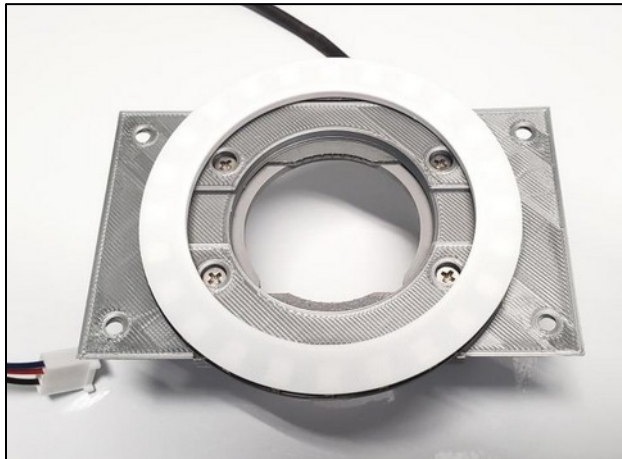
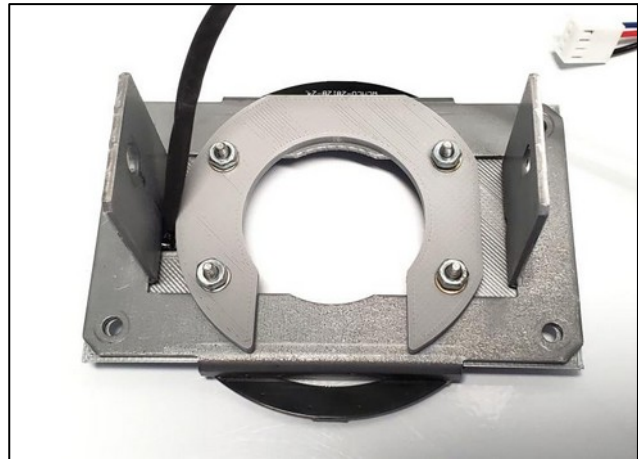

Figure 8
Figure 9
2. With the top bracket now removed and on a work surface, begin to mount the LED ring assembly in place with the included hardware along with lower mounting bracket. Start by placing the top LED ring bracket assembly as shown in **Figure 8**. Using the supplied #4 tapered screws in the top inner four holes of the LED bracket assembly, guide the lower mounting bracket in place from the bottom as shown in **Figure 9**. Add the flat washers towards the lower bracket followed by the split lock washer and the 1/4" nuts. Loosely tighten all nuts so the LED ring bracket can be centered properly with the main outside corner mounting holes as shown in **Figure 8**. Once centered, do a final tightening of all four nuts. Your top bracket should now look like **Figures 8 and 9**.